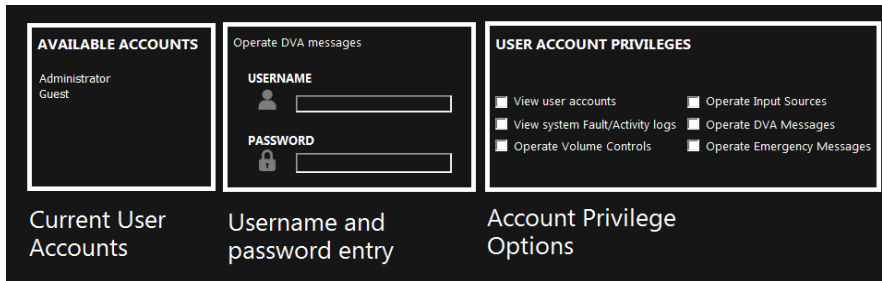

Figure A.2 - User Accounts Window
3. The Accounts window will be displayed as shown in Figure A.2.